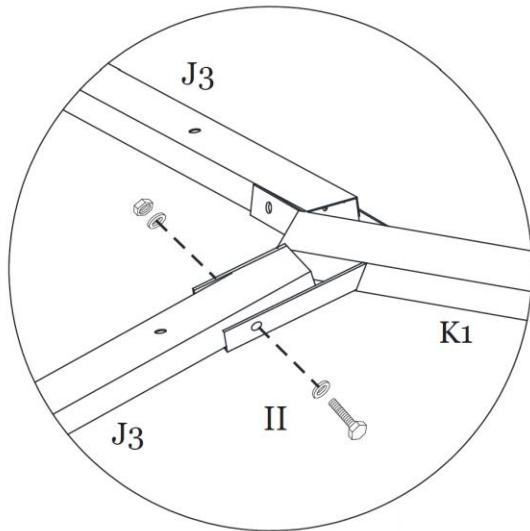

Figure 11-1
Step 11A: Assemble the Roof Vent Frame by attaching the Roof Vent Corner Support (J3) to the Roof Vent Support Frame (K1) using Bolts/Washers/Nuts (II). See Figure 11-1.